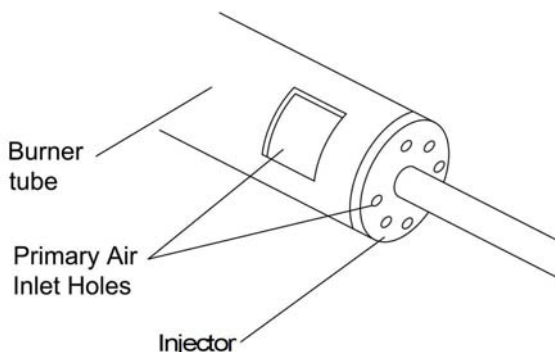

Figure 19 – Injector holder on Outlet Burner Tube
2. Inspect burner, pilot and primary air inlet holes on injector holder for dust and dirt (see figure 19).
5. Blow air into the primary air holes on the injector holder (see Figure19).